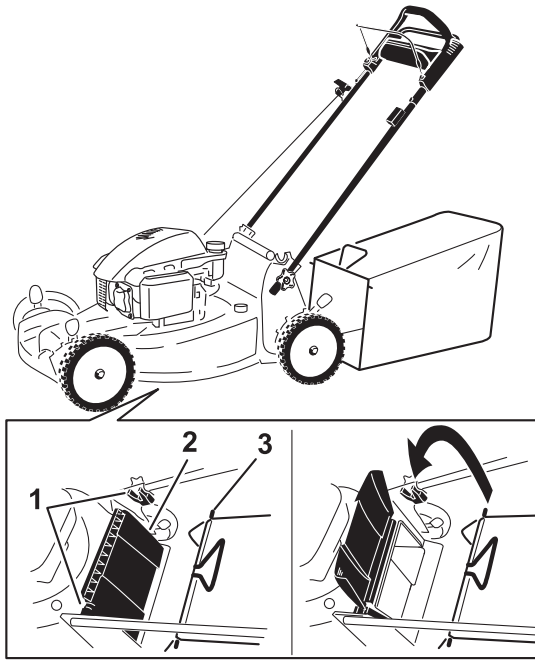

Figure 15
1. Raise and hold up the rear deflector (Figure 15).
2. Install the grass bag, ensuring that the pins on the bag rest in the notches on the handle (Figure 15).